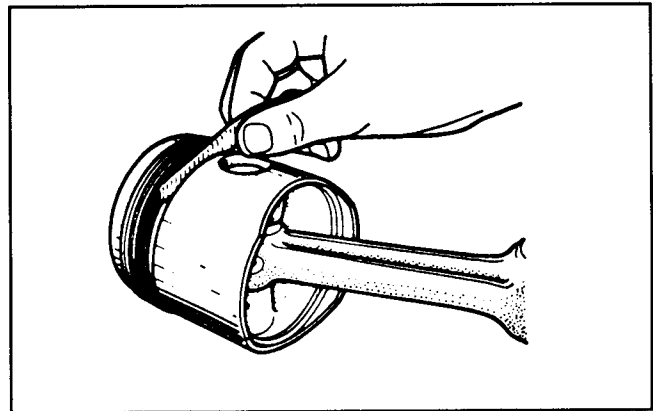

Figure 85
9. Use a thickness gauge to check the piston ring side clearance (Fig. 85).